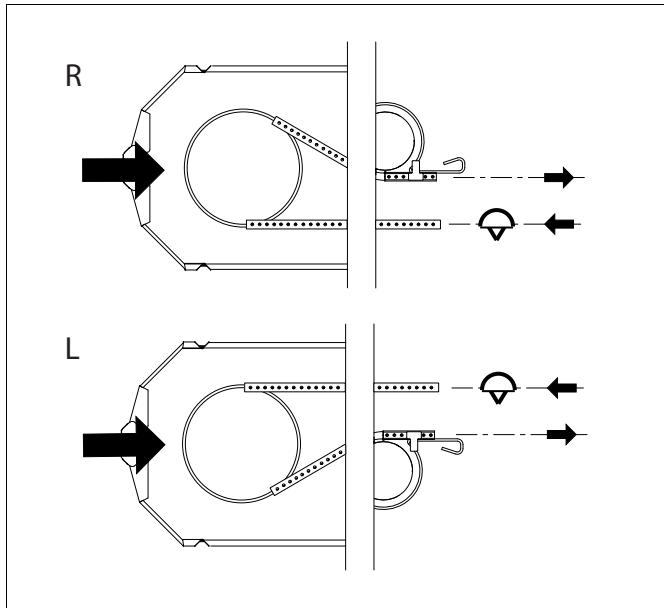
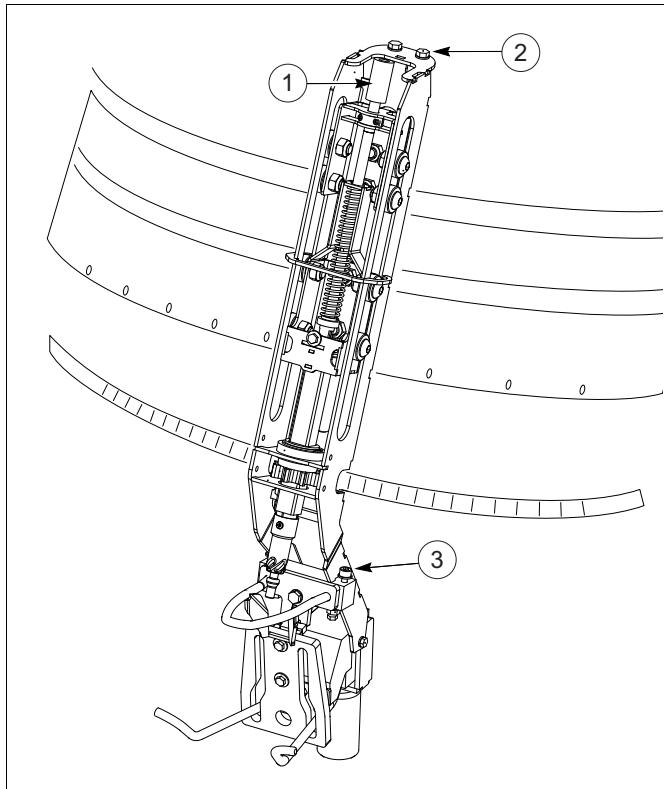
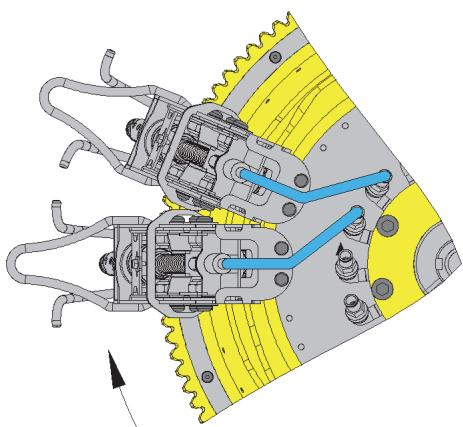
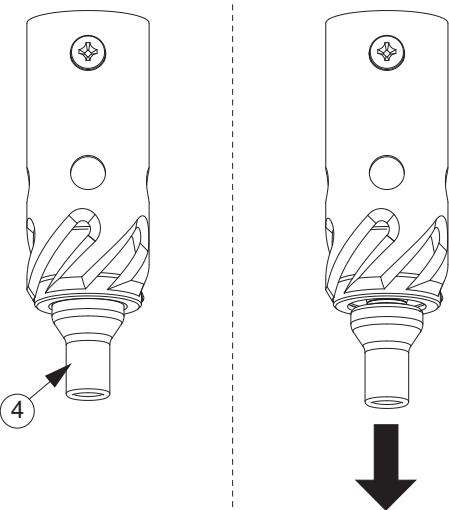

fig. 65 Vent cutter position
fig. 66 Demounting and mounting a unit
fig. 67 Unit - distributor head hose connection
fig. 68 Cloaca pin position
See fig. 65 and fig. 66.
1. Check if the vent cutter is in the 90° position. See fig. 65.
See fig. 65, fig. 66, fig. 67 and fig. 68.
See fig. 68.